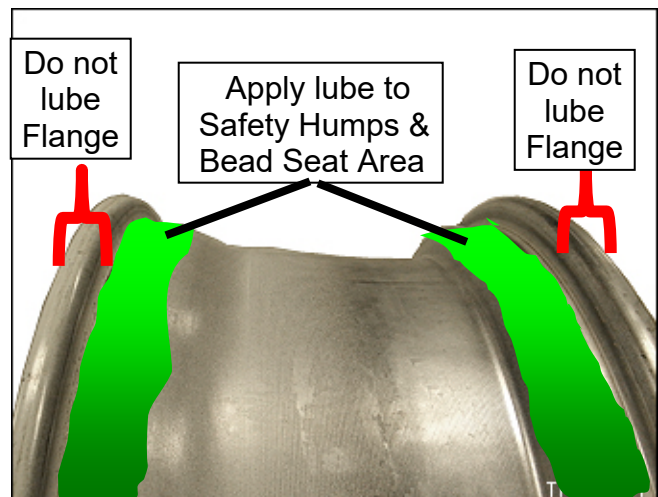

Figure 2
2. Clean the wheel (flange and bead seat area), see Figure 2. Make sure to clean off all rust and corrosion.